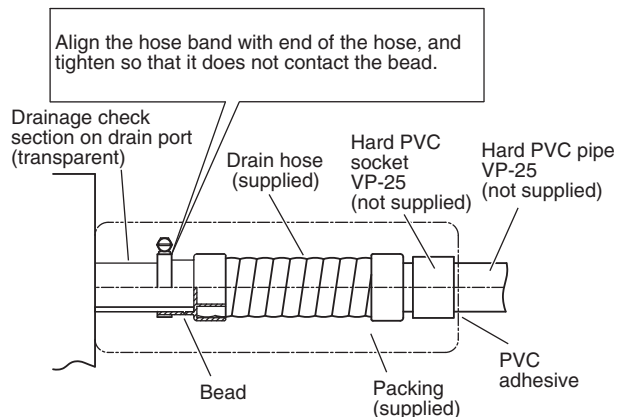

Fig. 3-8
The transparent drain part on the unit allows you to check drainage. (Fig. 3-8)
- Tighten the hose clamps so their locking nuts face upward. (Fig. 3-8)